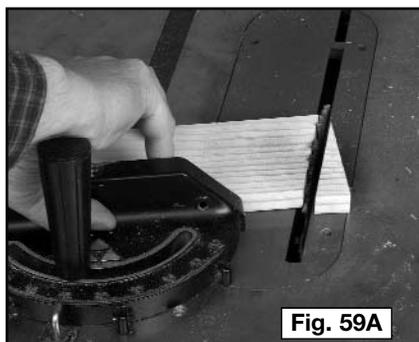

Fig. 59A
Step 1 - Cut the ends of the tail board at the desired angle. Note that when the angle is approaching 15° that the tails weaken (Fig. 59A).